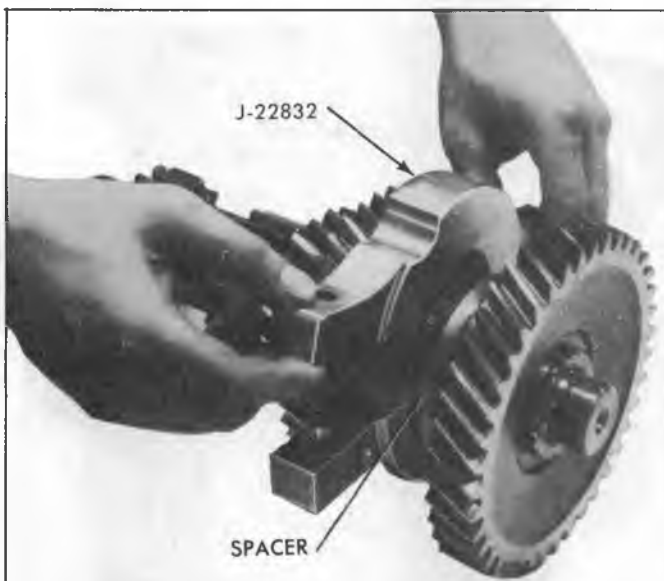

Fig. 20Q--Positioning Tool J-22832 On Countershaft
2. Install Tool J-22832 or suitable press plates on countershaft, open side to spacer, (fig. 20Q); support assembly in an arbor press and press countershaft out of clutch countergear assembly.